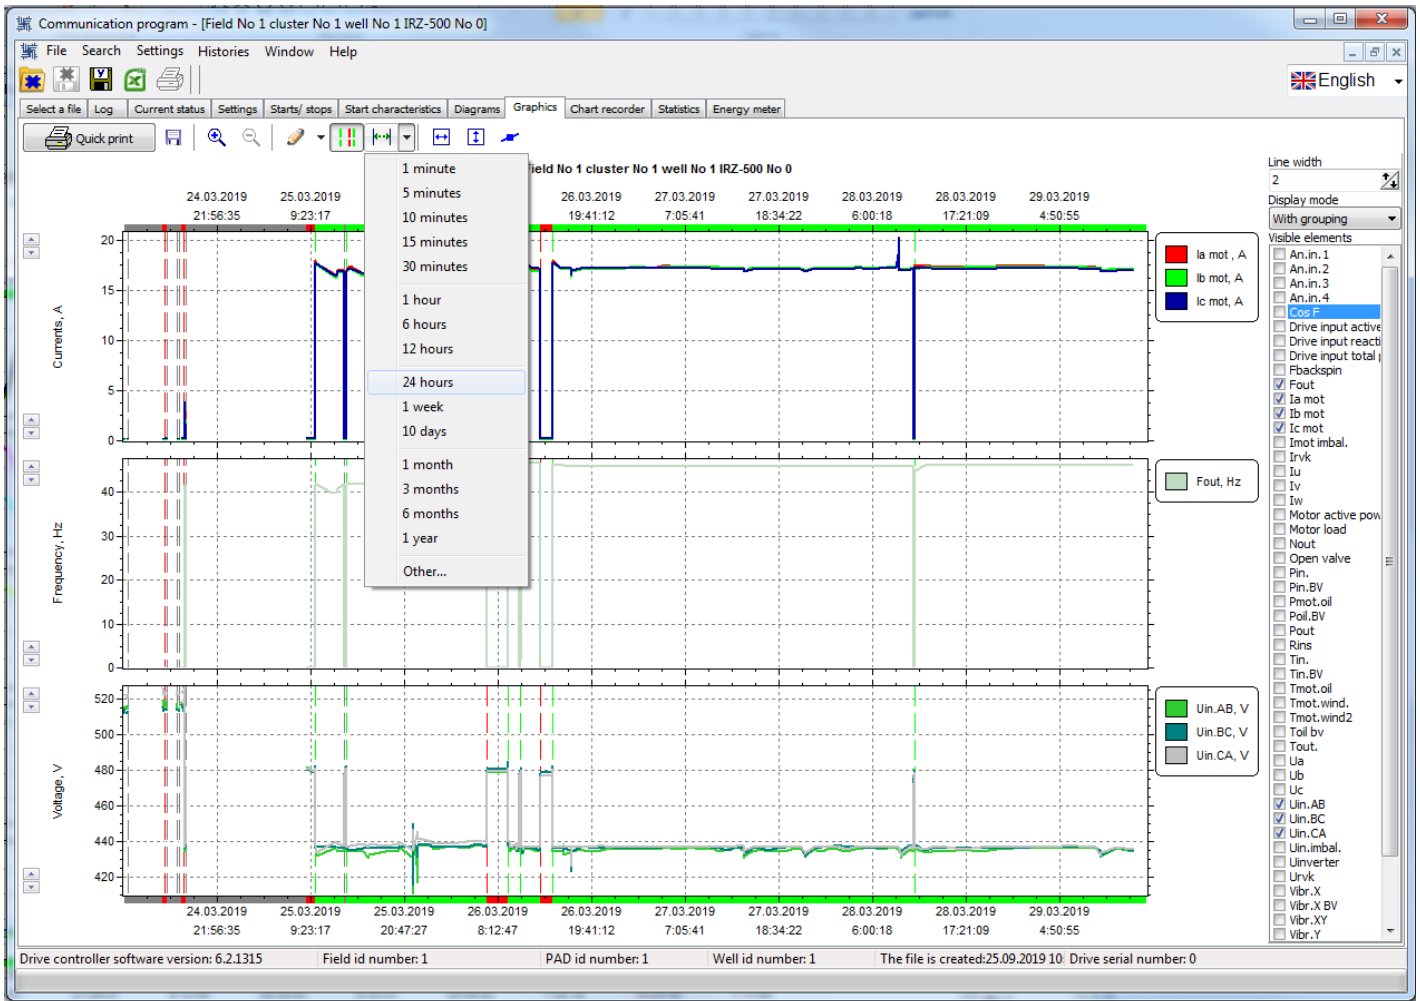

Fig. 36
- using  (configure scale). When the button is pressed, a drop-down list appears. Select the required value of time scale in the list (see Fig. 36),